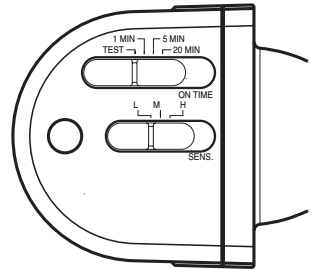

Figure 7
2. Slide the sensitivity (SENS) switch to the “LO” position and the ON-TIME switch to the TEST position (see Figure 7).